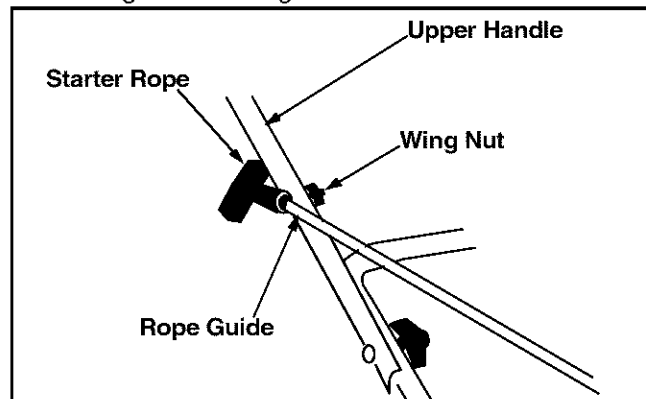

Figure 6
- Loosen the wing nut holding the rope guide to the upper handle. See Figure 6.
Read this operator's manual and safety rules before operating your lawn mower. Compare the illustrations in Figure 6 with your lawn mower to familiarize yourself with the location of various controls and adjustments. Save this manual for future reference.